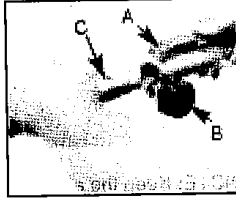

Fig. 8B
1. Loosen screw (B) counterclockwise (Fig. 8B).
2. Push latch (A) down and remove the lower handle (see Fig. 8B).
3. Insert the bottom drive-shaft rod and lock in the primary hole (C) with the latch.
4. Re-tighten screw (B) clockwise.